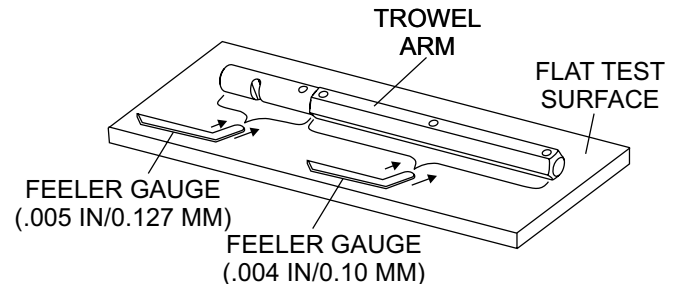

Figure 67. Checking Trowel Arm Flatness
1. Use a thick steel plate, granite slab or any surface which is true and flat, to check all six sides of each trowel arm for flatness (Figure 67).